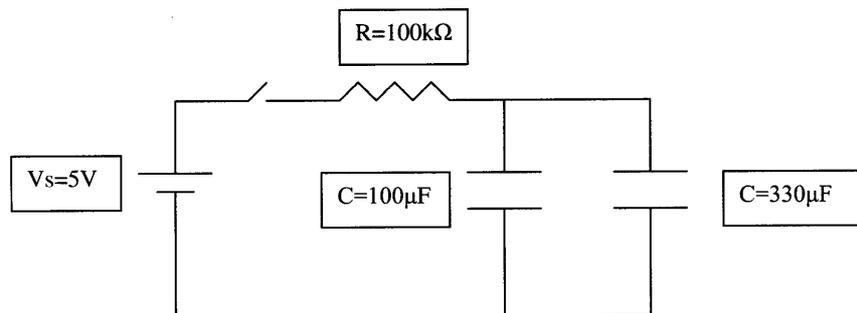

Figure 15.4:
- Repeat the procedure with the $100\mu F$ and the $330\mu F$ capacitors are in parallel (Figure 15.4).